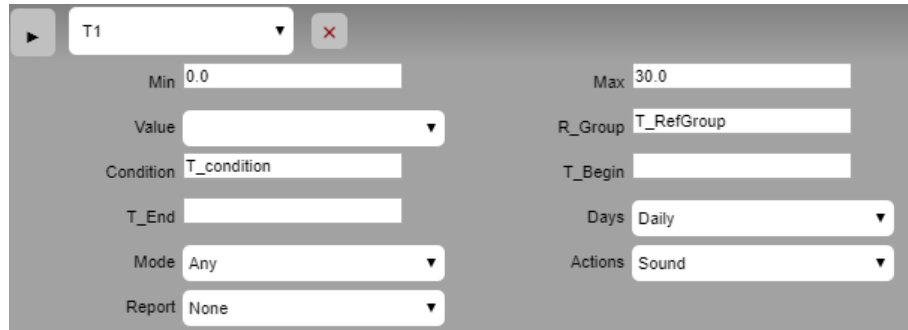

Figure 5.18: Example of a most likely general alert.
From now, "time begin" and "time end" fields are going to be completed as blank gaps so as to use the most likely general alert. Thus, alerts in this section and the followings are going to be tested with the most general configuration (Figure 5.18), this is:
- ☐ Create an alert with the structure of the one shown in the Figure 5.18 and reset AtenTTo.